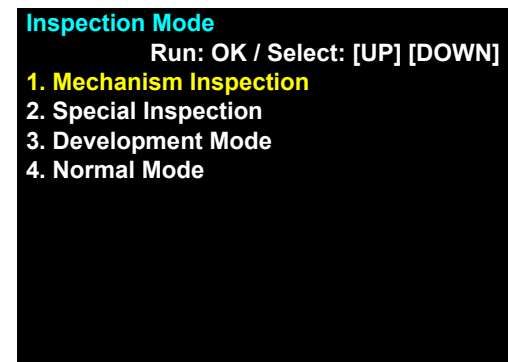

Figure 8-30. Start-up Screen in the Special Inspection Mode
- If one of the modes in the menu (Fig. 8-30) is selected and entered by pressing the OK button, you cannot go back to the screen (Fig. 8-30) again. To return to the screen (Fig. 8-30), turn the power off once, and start the printer in the special inspection mode once again.
3. Within 30 seconds after turning the power off and the LCD screen goes off, press and keep pressing the sections shown below (1), then press the Power button for more than one second (2) to start Artisan 725/PX720WD/TX720WD in the special inspection mode.